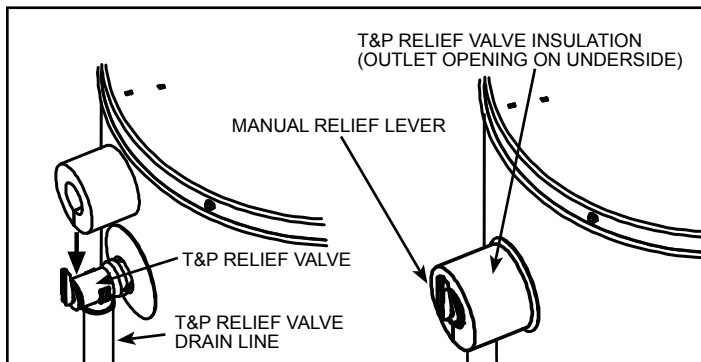

Figure 12. T&P Valve Insulation
Locate the temperature and pressure relief valve on the water heater (also known as a T&P relief valve) (see Figure 12).
2. Spread the slit open and fit the insulation over the T&P relief valve (see Figure 12). Apply gentle pressure to the insulation to ensure that it is fully seated on the T&P Relief Valve. Once seated, secure the insulation with duct tape, electrical tape, or equivalent.
Important: The insulation and tape must not block the discharge opening or hinder access to the manual relief lever (Figure 12). Ensure a discharge pipe is installed into the T&P valve discharge opening per the instructions in this manual.